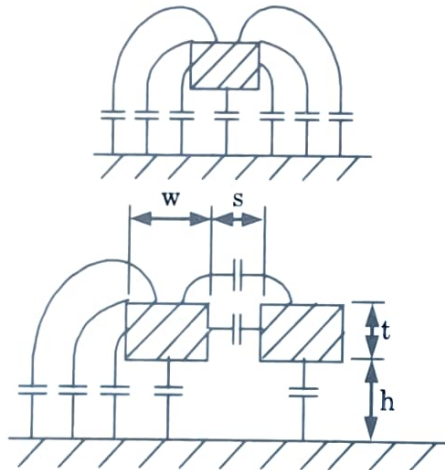

Fig. 2.2.1. Effect of fringing fields on capacitance.
2. In addition, a wire adjacent to a second wire on the same layer can exhibit capacitance to that neighbour. These effects are illustrated in Fig. 2.2.1.